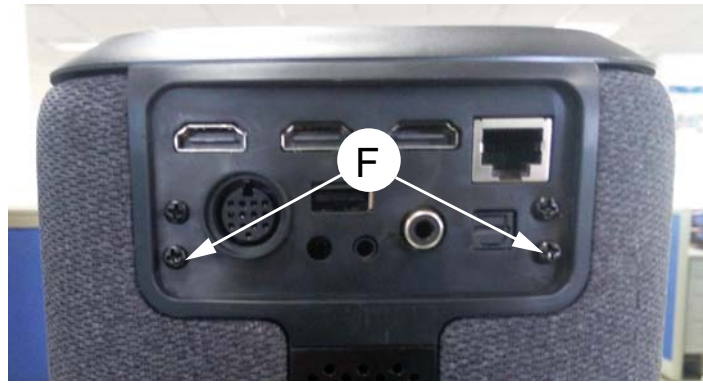

Figure 8
- 2) Loosen 2 screws "F" as shown in figure 8 to remove the bottom cover assembly.